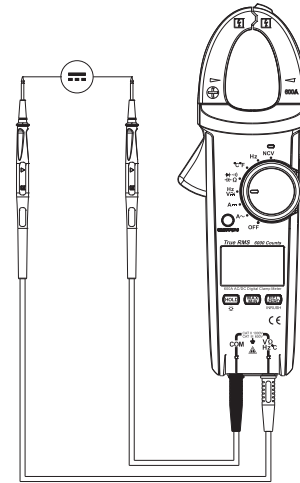

Figure 5
3. DC Voltage Measurement (See Figure 5)